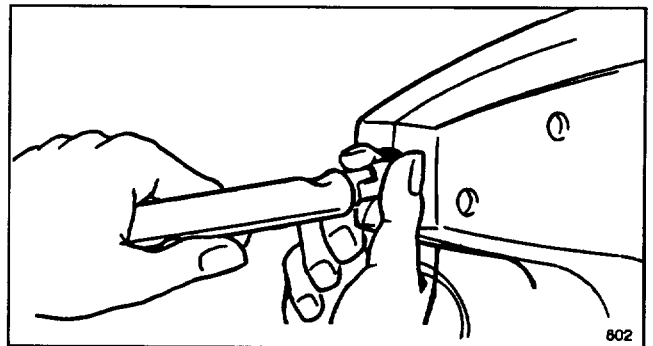

Figure 4
4. Connect plug in battery housing with connector plug extending out of tube (Fig. 4). **BE SURE CONNECTORS ARE SECURELY CONNECTED TO ONE ANOTHER BEFORE INSERTING TUBE INTO HOUSING.**